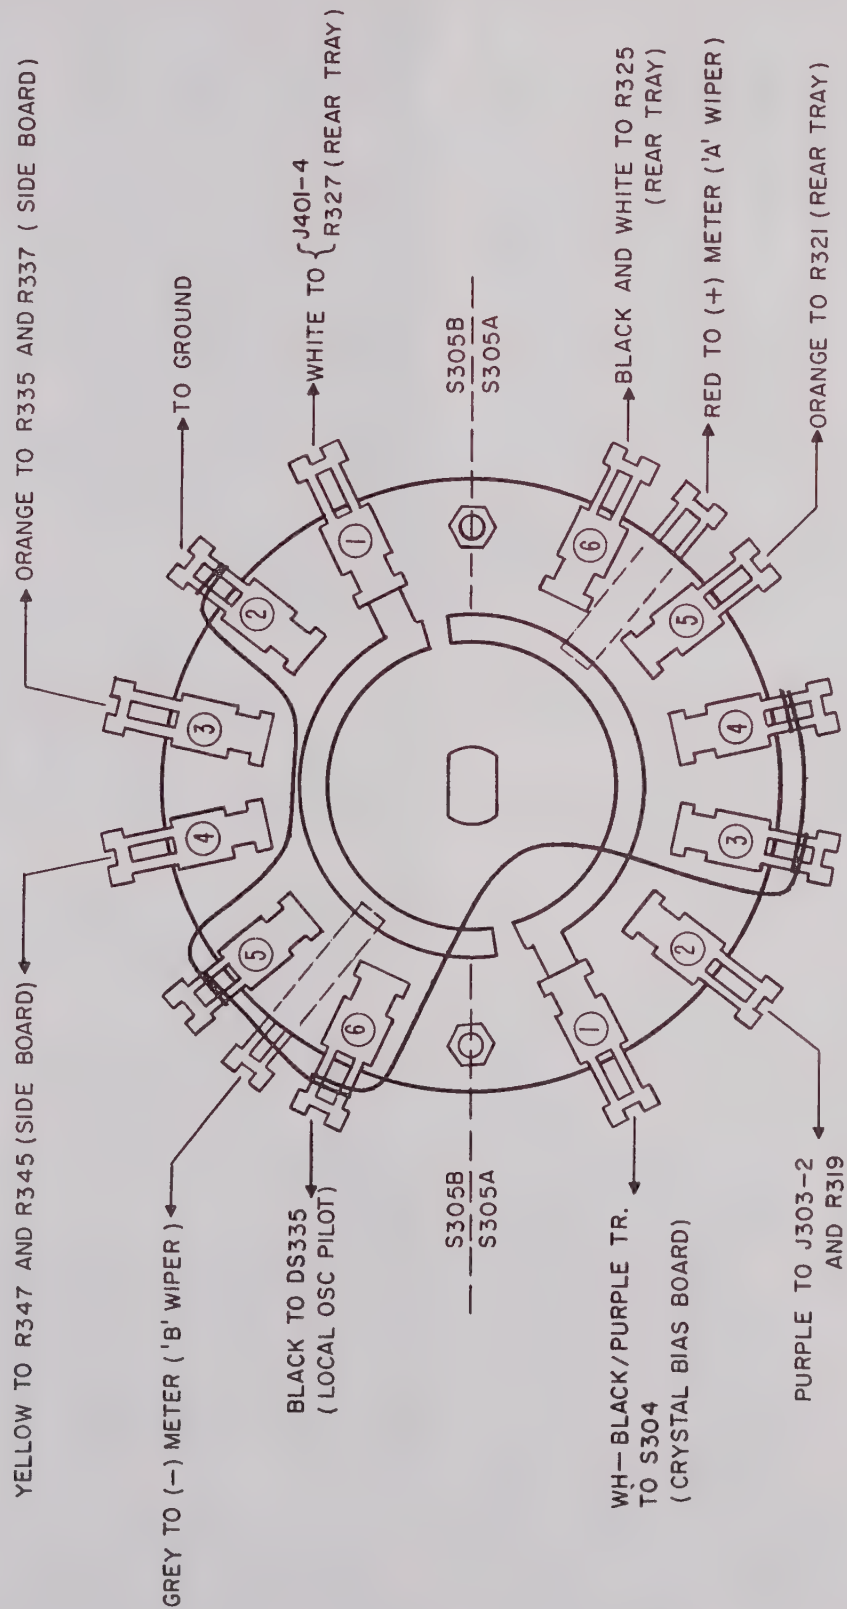

Figure V-20. Meter Function Switch (Wiring Diagram)
6. RANGE Pushbutton Switch (S302) and METER FUNCTION Switch (S305). These two switches may be serviced when necessary by referring to the wiring diagram Fig. V-20 and V-21. They are both of the sliding contact wafer type design. It is not feasible to repair these switches for defective or burnt contacts in the